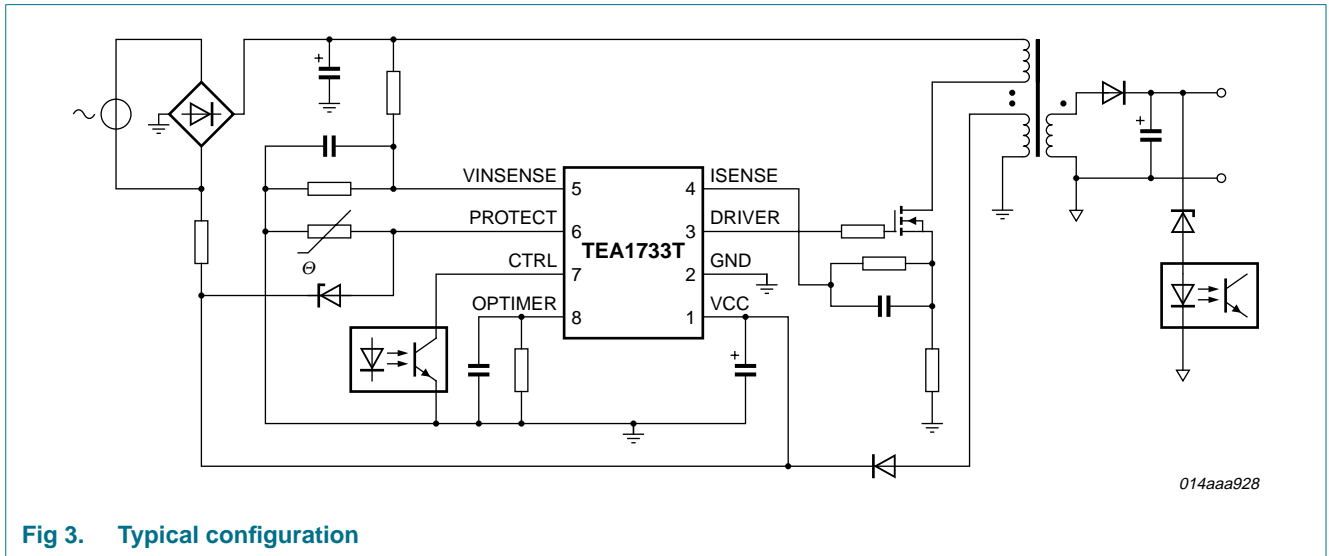

Fig 3. Typical configuration
The TEA1733(L) contains a controller for a flyback circuit. A typical configuration is shown in Figure 3.